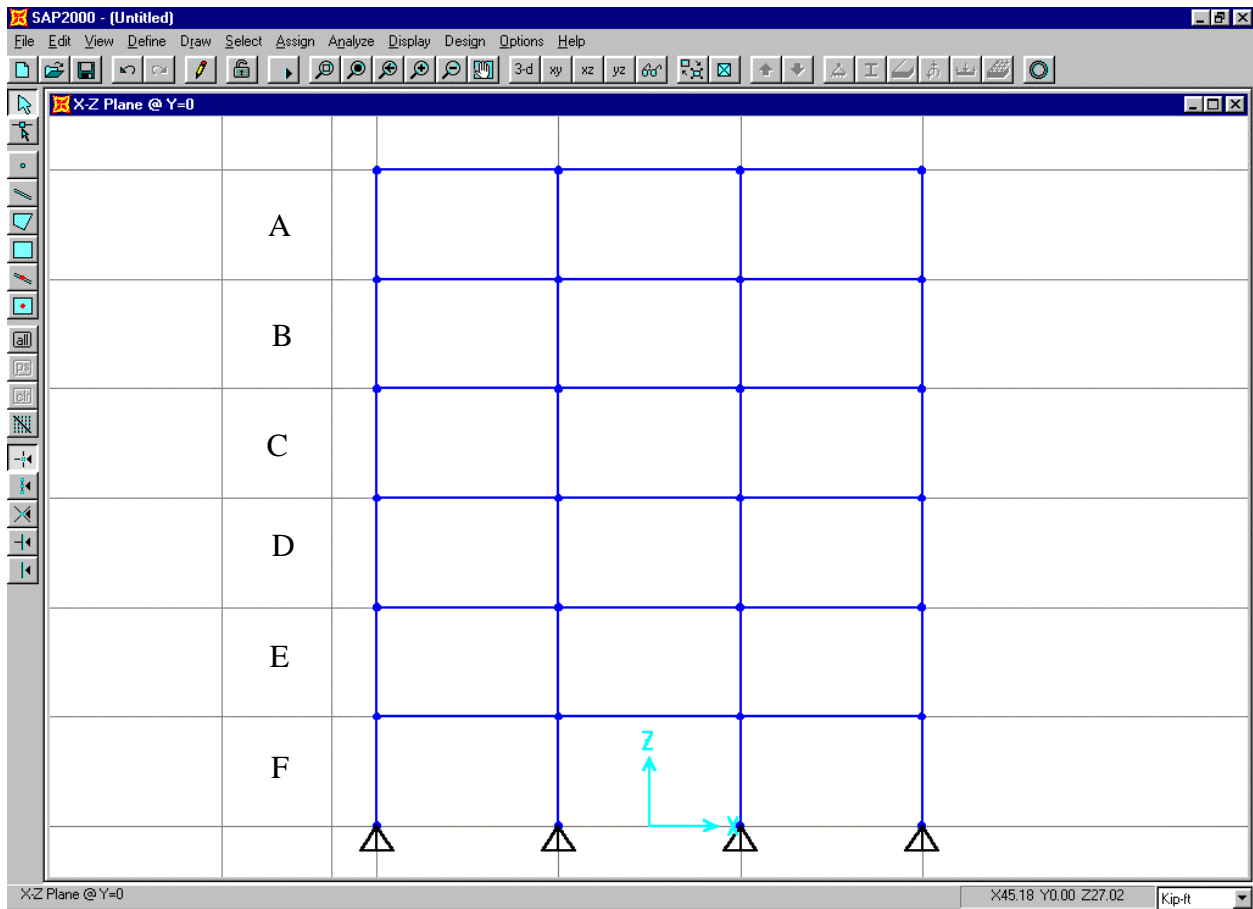

Figure N-1: Screen As It Appears After Step 7
- Click the **OK** button. The screen appears as shown in Figure N-1.
9. Click in the area labeled “A” in Figure N-1 to input the first shell element. Note that a quick Shell element is drawn by clicking in a grid space, bounded by four grid lines.
10. Click in the areas labeled “B”, “C”, “D”, “E” and “F”, in that order, in Figure N-1 to input the other shell elements.